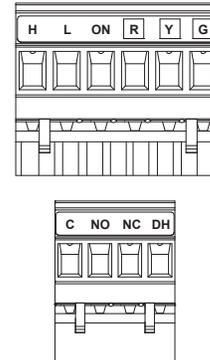

Figure 29. Type B
- For the DXPL03 Deluxe Control, remove the operating instructions card from the top of the control (Figure 29, Box A).
- For the DXPL03 Deluxe Control, place the back plate of the control in the desired location on the wall and pencil mark the wall with the right and left screw holes (Figure 29, Box D).
- For the BC02, BC03, or BC04 Basic Controls, place the back plate of the control in the desired location on the wall and pencil mark the top and bottom screw holes (Figure 29, Boxes E or F). For mounting the control without a decorative plate, break off top and bottom tabs and refer to Figure 29, Box F for mounting.
- Remove the back plate from the wall and mark the center hole for the wires in the middle of the screw holes. Refer to Figure 29, Boxes D, E or F for dimensions.
- Drill (two) 1/8" (3 mm) holes for the screws and wall anchors (Figure 29, Boxes D, E or F). For the DXPL03 Deluxe Control, drill a one inch hole in the center (Figure 29, Box D). For the BC02, BC03, BC04 Basic Controls, cut in a 3/4" (19 mm) by 1" (25 mm) oval hole in the center (Figure 29, Boxes E or F).
- Connect red, green, and yellow to the wiring terminals located on the back plate (Figure 29, Boxes D, E or F).
- Attach the face plate to the back plate (Figure 29, Boxes B or C).
- For the DXPL03 Deluxe Control, insert the instructions card into the control (Figure 29, Box A).